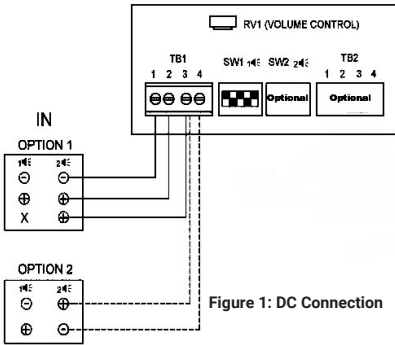

Figure 1: DC Connection
- A second stage tone is made available via a third wire connected to terminal TB1/3 as shown in Figure. 1.
- Alternatively, the 1st and 2nd stage sound signals can be generated by supply reversal. See Fig. 1, Option 2.